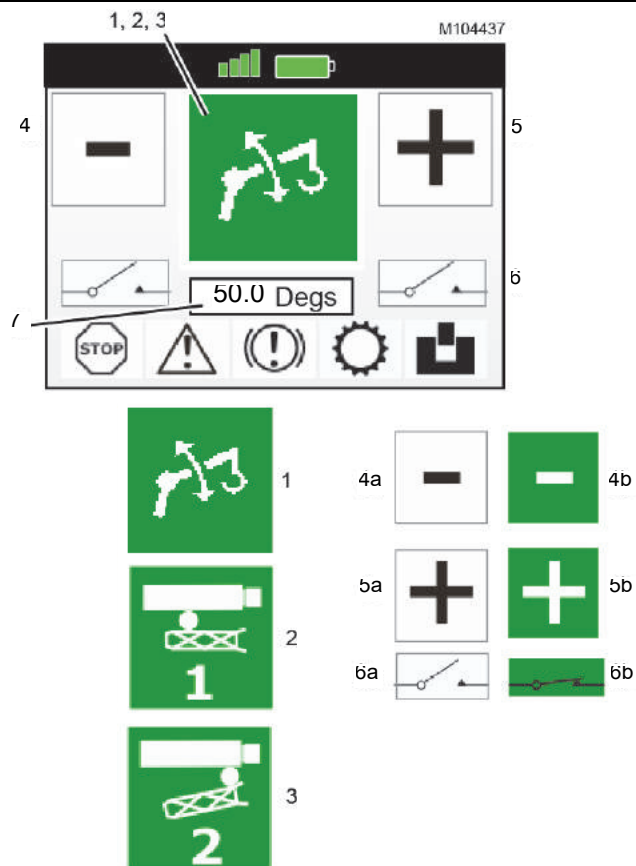

FIGURE 4-60
See Figure 4-60
1. Press the option button  on the remote control unit as many times as needed to access the rear boom extension stowage actuator screen (2) See Figure 4-60.